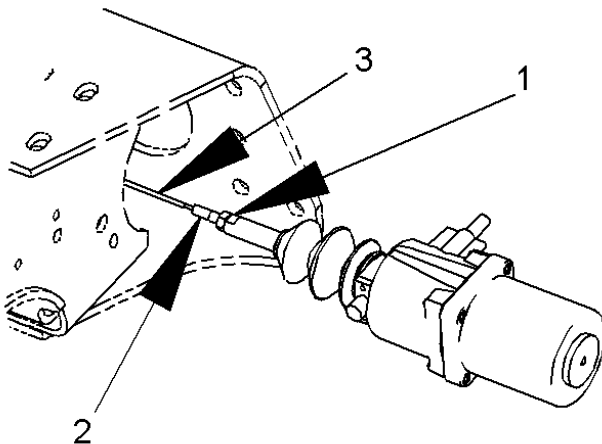

Figure 10 Spring Chamber Assembly
- Loosen jam nut and un-thread adjustment rod from chamber to reduce tension on the cable. Continue to un-thread adjustment rod all the way and remove from chamber (Figure 10). **Nut and shaft are metric.**